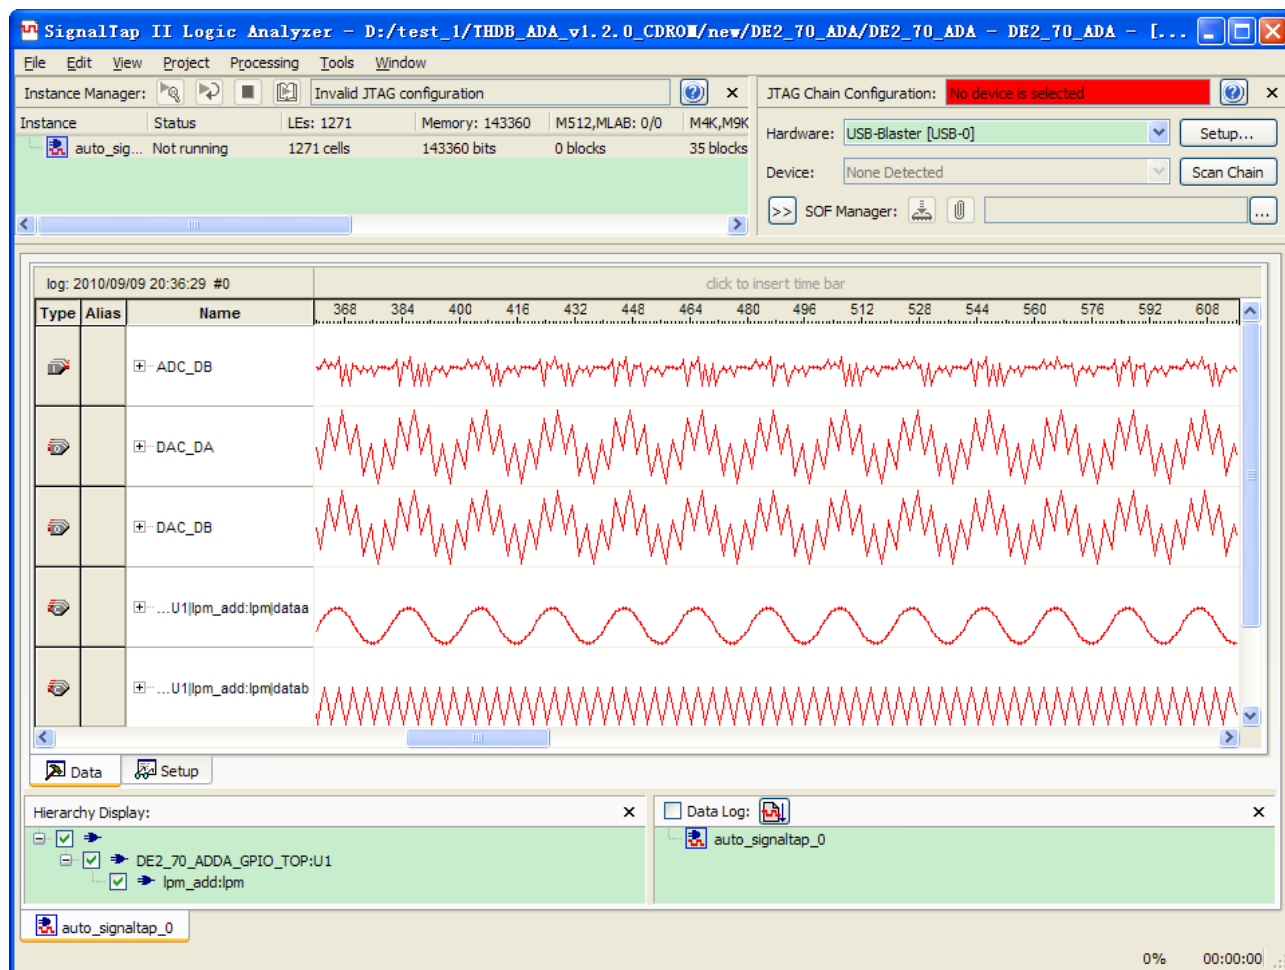

Figure 4-4 Connect ADA-GPIO with DE2-70
6. Open stp1.stp from <path>\Demonstrations\DE2_70_ADA, as shown in **Figure 4-4**.